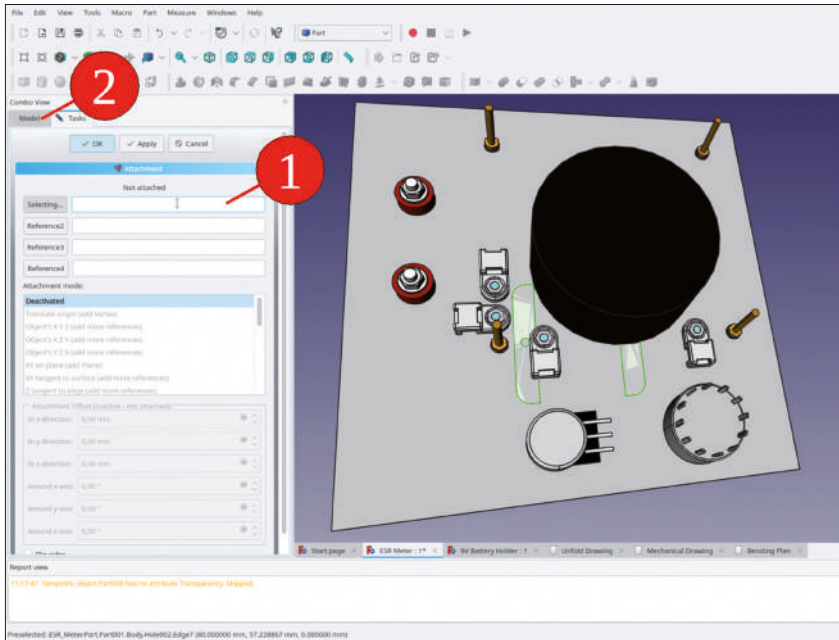

Figure 7-52
17. Switch to the 'Part' workbench. In the tree view, mark the '9V Battery Holder Complete' Std-Part-Container. From the main menu, select 'Part | Attachment'. Click into the edit field for Reference 1, of which the label reads 'Selecting...' (Figure 7-52). Switch to the 'Model' tab.